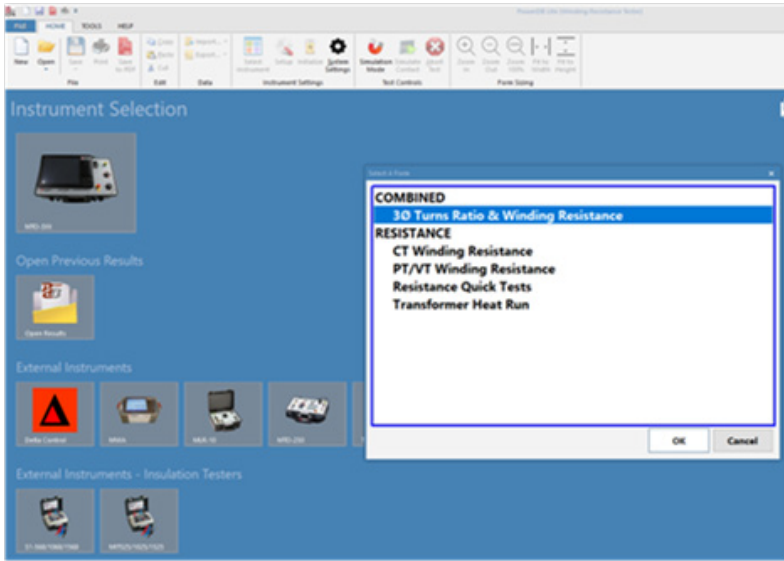

Figure 4a: MTO Display on Startup
9. MTO300/330A and PowerDB Lite - Select the instrument MTO300/330A from the instrument setup screen. See Figures 4a & 4b, below.